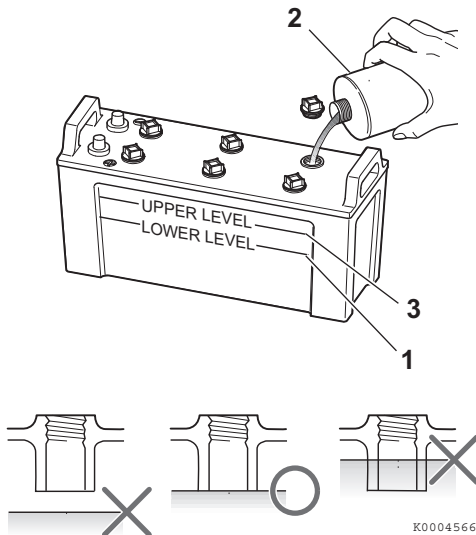

Figure 9
4. If the level is lower than the minimum fill level (**Figure 9, (1)**), fill with distilled water (**Figure 9, (2)**) (available in the grocery store) up to the upper limit (**Figure 9, (3)**) of the battery.